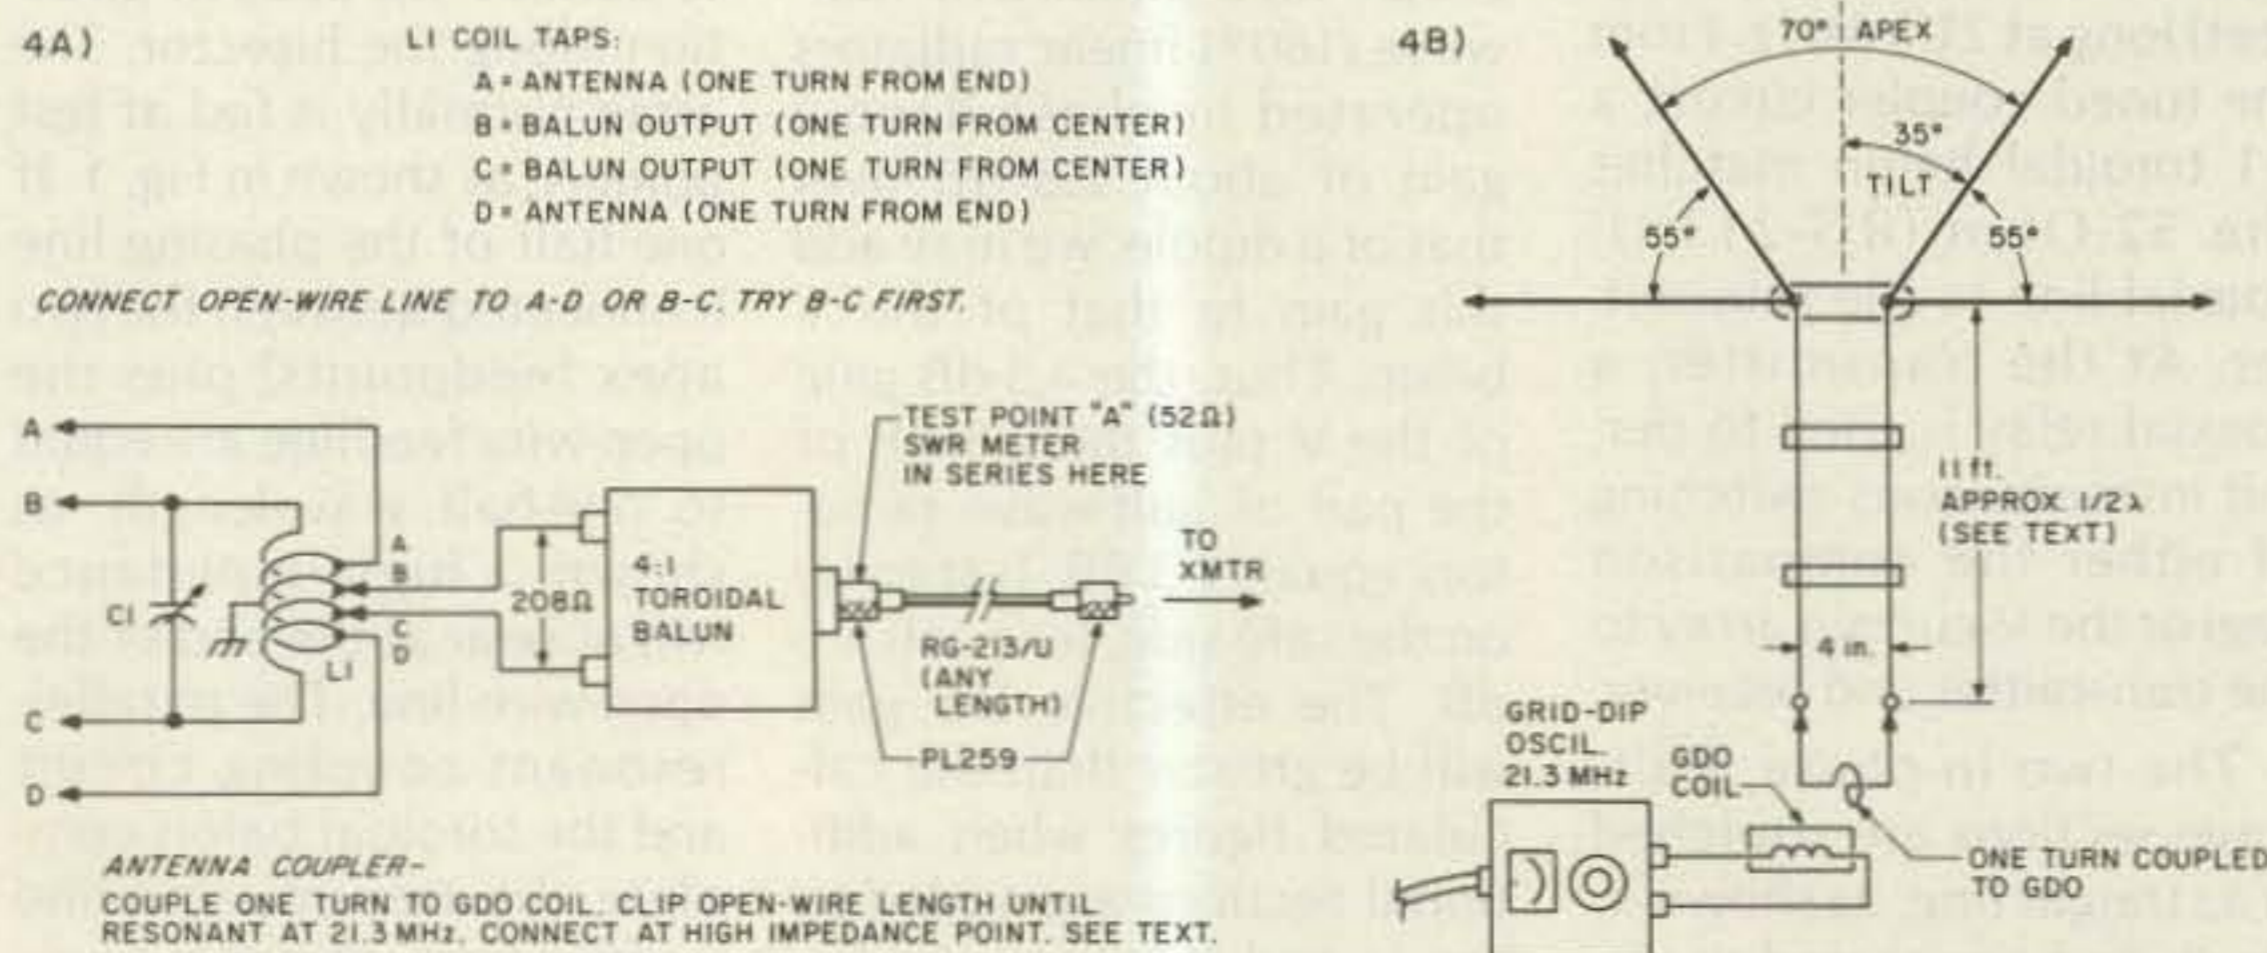

Fig. 4. Antenna coupler details. V-bomb antenna system.
wavelength (22 feet) long. However, when the stacked arrangement was completed, it was found that capacitor C1 would tune to a shallow dip on the reflected-power-meter indicator but a complete (0) null could not be obtained. The coupler circuit was then changed as shown at A in Fig. 4.
Tuning capacitor C1 is connected across the entire coil winding, as shown. The open-wire transmission line in our case is connected to taps A and D. The A and D taps are made exactly 1 turn from the ends of the coil. See Fig. 4 at A. The open-wire-line taps are correct for a balanced line of approximately 500 to 600 Ohms.
If you want to be "scientific" and hand-hone the array to resonance, connect a 1-turn coil across the open-wire line, as shown at B in Fig. 4, about 11 feet, 4 inches down the line from the point where the line is connected to the V apex feedpoint. Cut both wires of the line, leaving the line one-quarter wavelength from the apex feedpoint to the 1-turn coil.